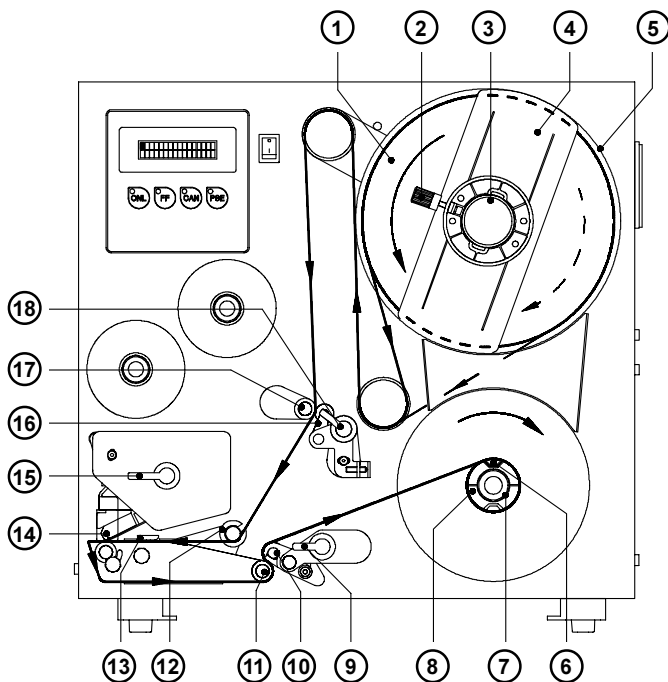

Fig. 6b Media loading Hermes 4N/5N
5. Unroll a length of label stock from the media roll and feed it first to the printhead (14) as shown in figure 6b.
6. Feed the label stock out of the front side of the printer until there is enough material to reach the internal rewinder. Take all labels off the outstanding liner, and feed the liner as shown in figure 6b to the internal rewinder (8).
7. Slide the media strip under the rewinder clamps (6) to the wind plate. Hold the rewinder and turn the knurled knob (7) clockwise. That way the label strip will be fixed at the rewinder.
8. Turn the rewinder (8) clockwise for tightening the label strip.
9. Slide the guide (12) against the outer edge of the label strip.
10. Swing all levers (9, 18 and 15) counterclockwise until they block. In this way the transport system (10, 11) and the backfeed system (16, 17) will be closed and the printhead (14) will be locked.